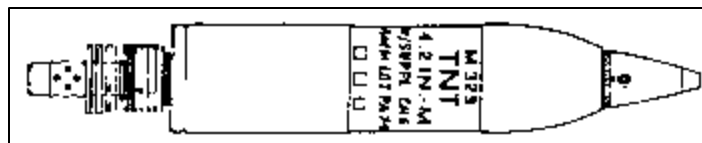
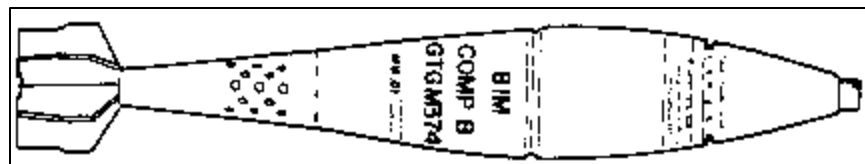

Figure 44. 4.2 inch Mortar
Figure 45. 81mm Mortar
- (1) Most mortar shells are constructed of thin-wall steel tubing. They may have a cylindrical shape with a long, tapered base and a short ogival nose, or they may be egg or teardrop-shaped, as shown in Figure 44 and Figure 45. Mortar shells may range in size from 45mm to 380mm in diameter. All unexploded projectiles are to be considered armed. If portions of the projectile are buried with the tail protruding from the ground, do not try to remove it by pulling on the tail assembly.
- (2) Flight is stabilized by spin or by fins. Spin stabilized projectiles, like the one shown in Figure 44, have a rotating disc near the base that expands into the rifling of the mortar tube when the round is fired. The rotating disc imparts spin to the projectile to stabilize it in flight. Fins are attached to the base of projectiles fired in smoothbore mortar tubes to stabilize the projectiles in flight. A fin-stabilized mortar shell is shown in Figure 45.